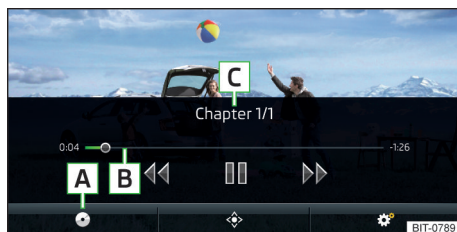

Fig. 203
Main menu » Fig. 203
Forward / rewind the video at the desired time	Tapping the playback time axis B » Fig. 203 on page 158
- ▶ to **display** the DVD menu in the Video DVD main menu, tap on the function surface ◊ » Fig. 203 on page 158 .